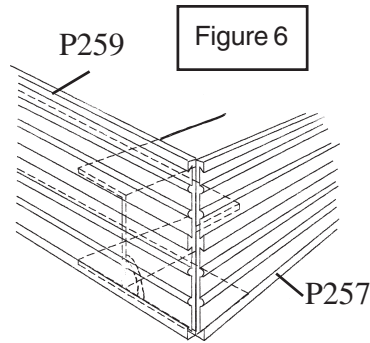

Figure 6
7. With all panels in place, fastened and sealed, install front guttered fascia. (See Figure 6.)
8. Install side fascia so that corners are flush and caulk seams. (See Figure 6.)